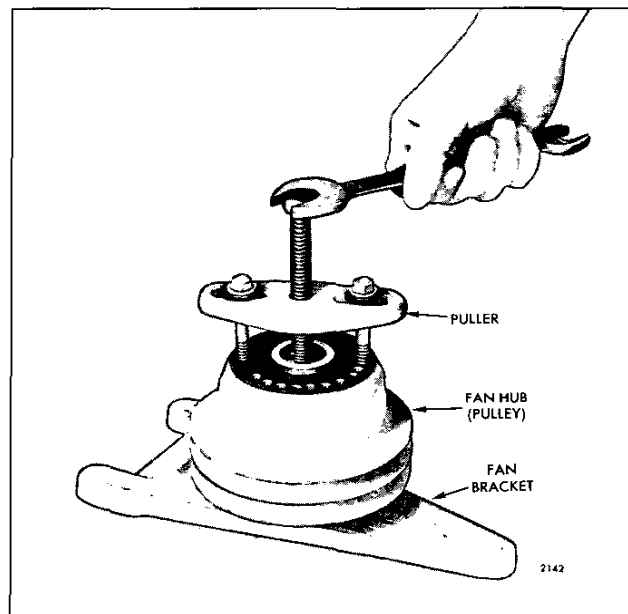

Fig. 4 - Removing Fan Hub (Pulley)
2. Remove the fan hub from the shaft with a puller as shown in Fig. 4.